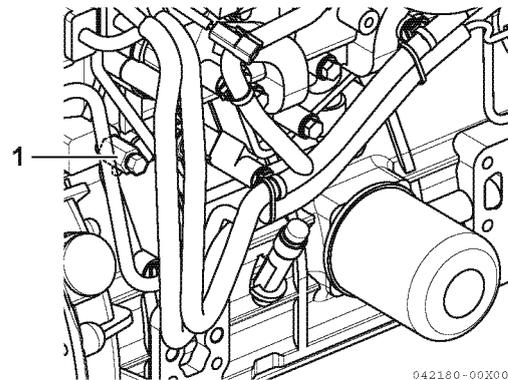

Figure 5-19
- Remove the coolant hose (1, **Figure 5-19**) from the oil cooler if your machine is equipped with an oil cooler.